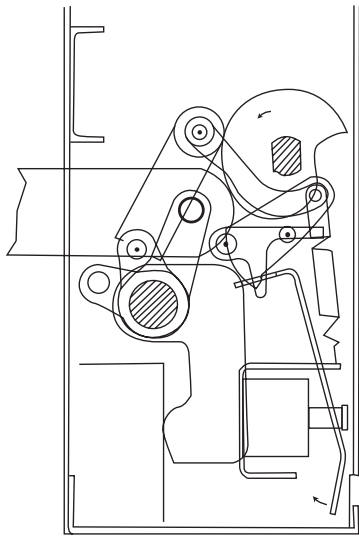
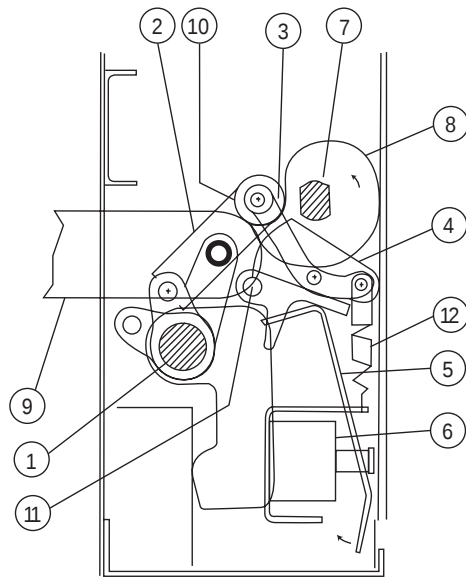

Figure 5-5a Breaker Open and Closing Spring Not Charged
Figure 5-5b Breaker Open and Closing Spring Charged
Figure 5-5 shows the positions of the closing cam and tripping linkage for four different operational states. In Figure 5-5a the breaker is open and the closing springs are discharged. In this state, the trip latch is disengaged from the trip "D" shaft (unlatched). After the closing springs become charged, the trip latch snaps into the fully reset or latched position (Figure 5-5b).
When the trip bar "D" shaft (11) is turned by movement of the shunt trip clapper (5), the trip latch will slip past the straight cut portion of the trip bar shaft and will allow the banana link and main link roller to rise. The energy of the opening spring and contact loading springs is released to open the main contacts. The mechanism is in the state illustrated (Figure 5-5b) after the breaker is tripped open.